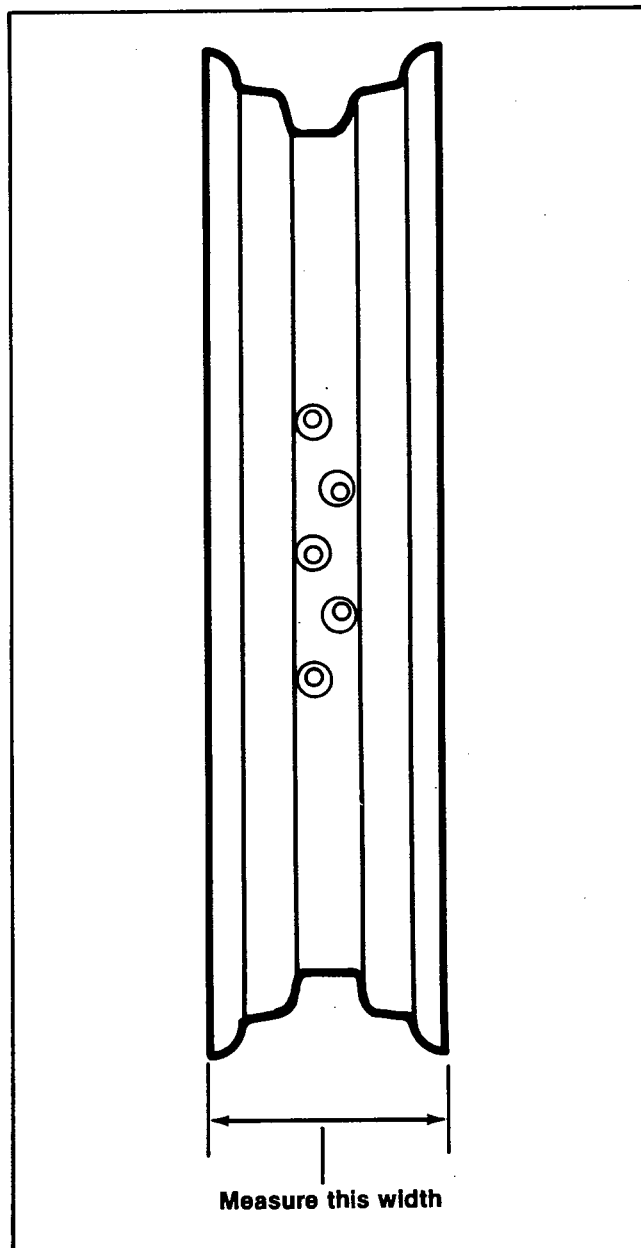

Figure 1. Rim Width Measurement
1. With the tire on the rim, use a machinist's outside calipers, micrometer or similar measuring device to measure the rim width across the flanges as indicated in Figure 1. If the dimension is 4-3/16 in., wheel rebalancing is not required. However, if the rim width is 3-15/16 in. or less, the automotive type wheel weights must be removed and the wheel rebalanced using spoke mounted weights and adhesive type rim weights as needed.